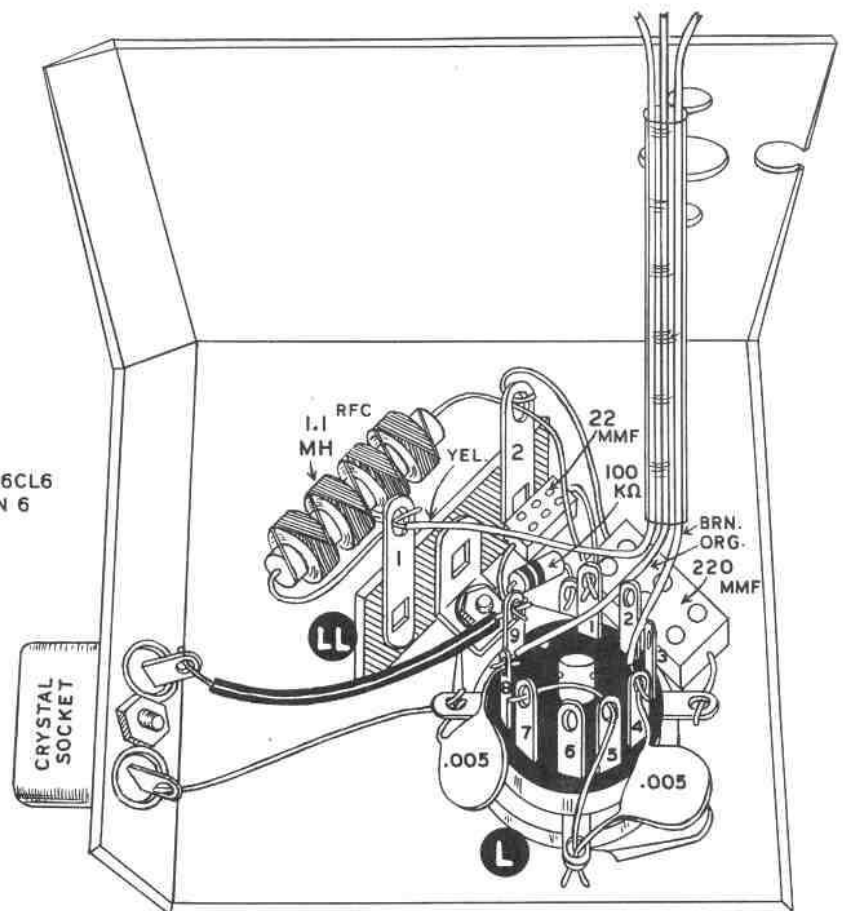
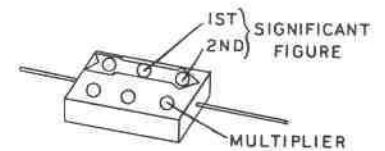

Figure 10
Figure 11
- ( ) Mount the crystal socket on the "L" bracket as shown in Figure 10. Use the one 4 - 40 x 1/2" machine screw and allow the flat sides of the 4 - 40 nut to recess between the socket pillars. A lockwasher is not used. Tighten with a small screwdriver. NOTE: If none of the remaining small nuts fit the 4 - 40 x 1/2" screw, then the 4 - 40 nut must have been used on one of the 3 - 48 screws to mount the coax socket.
- (✓) Connect one lead to ground lug 1 (S) and the other lead to pin 9 (NS).
- (✓) Select the 22  $\mu\mu\text{f}$  silver mica capacitor (red-red-black). See Figure 11. Cut both leads to 1/2".
- (✓) With the capacitor lying flat, bend both leads to a right angle edge-wise. Mount on top of the 100 K resistor and connect to pin 1 (NS) and pin 9 (NS). Refer to Figure 10.
- (✓) Thread the 1 1/4" lead through LL2 (NS) and continue to pin 1 on the 6CL6 socket L (S).
- (✓) Connect the 7/8" lead to LL1 (NS).
- (✓) Select the 220  $\mu\mu\text{f}$  silver mica capacitor (red-red-brown). See Figure 11. This capacitor may be marked .00022  $\mu\text{f}$ . Cut one lead to 5/8" and the other to 1".
- (✓) Position the capacitor flat against the bracket in the position shown in Figure 10. Connect the 5/8" lead to ground lug 2 (S).
- (✓) The 1" lead is formed up and through LL2 (S). See Figure 10.
- (✓) Connect one end to ground lug #4 (NS).
- (✓) Connect the other end to the outside crystal socket terminal (S).
- (✓) Connect one end to the #4 ground lug (S).
- (✓) Connect the other end to pin 8 on the 6CL6 socket (NS).
- (↪) Connect one end to pin 9 (S).
- (↪) Connect the other end to the crystal socket connection nearest to the RFC (S). See Figure 10.
- (↪) Connect one end to the #3 ground lug (S).
- (↪) Connect the other end to pin 4 (NS).
- (↪) Connect one end to tie point LL1 (S). Leave the other end free.
- (↪) Connect one end to pin 8 (S). Leave the other end free.
- (↪) Connect one end to pin 4 (S). Leave the other end free.
(✓) Select the 120  $\mu$ f mica capacitor (brown-red-brown) and cut both leads to 5/8". See Figure 11.